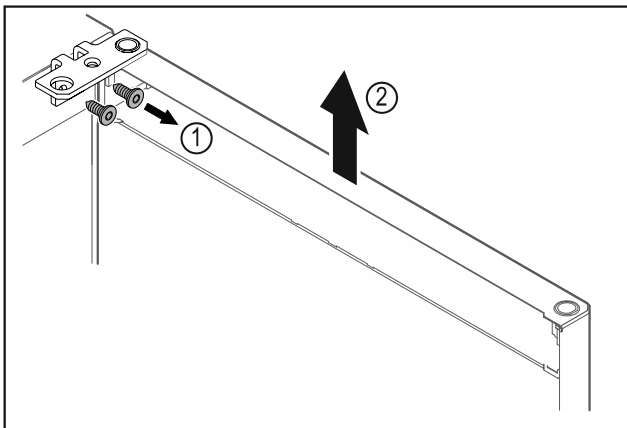

Fig. 13
- Unscrew the hinge Fig. 13 (1).
- Lift the door with the hinge straight up by Fig. 13 (2) roughly 200 mm and take it off.